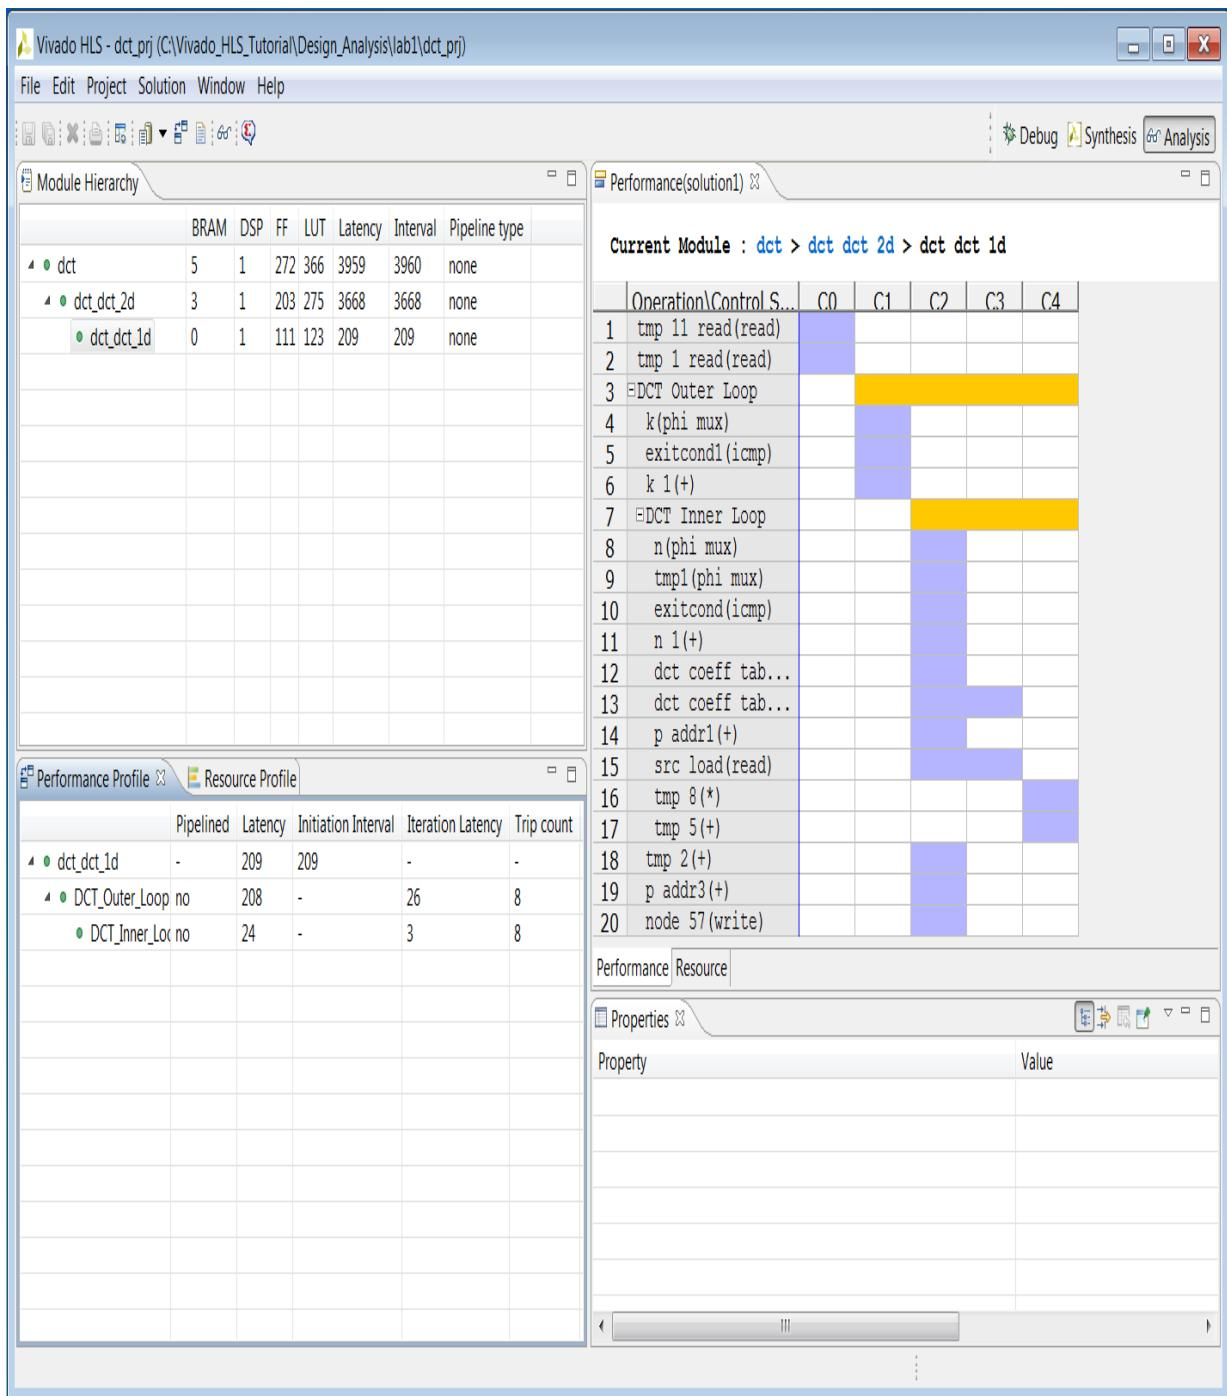

Figure 6-12: DCT_1D Performance View
Again, you can see a number of loops (shown in yellow in Figure 6-12). Loops ensure the design will have small area but the design will take multiple iterative states to complete: each iteration of the loop will complete before the next iteration starts.
7. Click loops **Row_DCT_Loop** and **Col_DCT_Loop** in the performance viewer to fully expand them, as shown in Figure 6-12.
9. Expand the loops in the **Performance Profile** and **Performance** view to see the view shown in Figure 6-12.